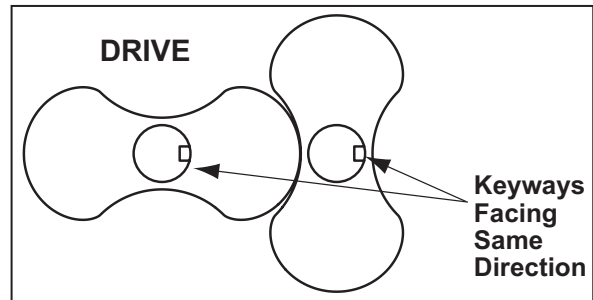

Figure 9 - Keyways position
3. Stand rotors [1] on arbor press table with gear end shafts up. See Figure 9. Two keyways should point in the same direction, to the right.